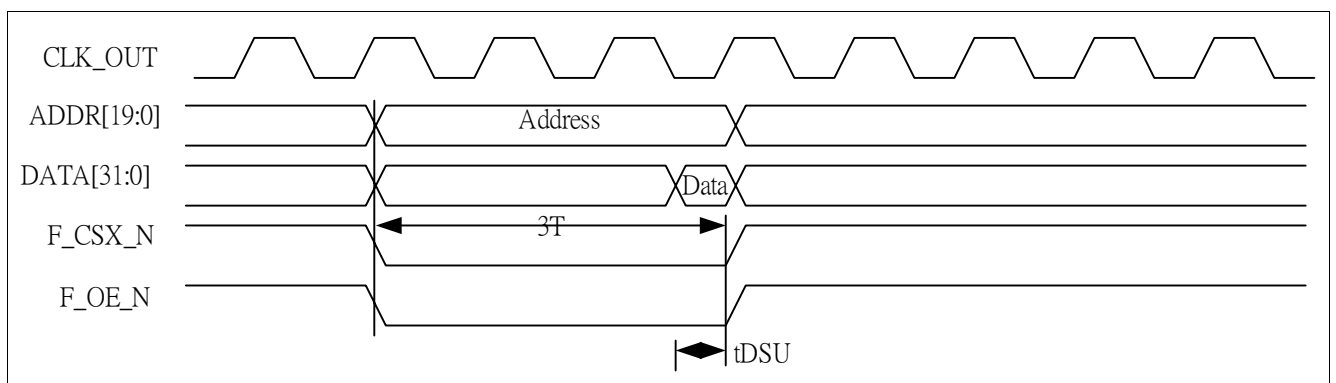

Figure 7 Read with Two Wait State
- The read access time is determined by the number of wait states programmed for the WAITRD field of the **MPMC Static Wait Rd 1** register. The WAITTURN field in the **MPMC Static Wait Turn 1** register determines the minimum number of bus turnaround wait states added between external read and write transfers. **Figure 7** shows that the WAITRD is set to 2 in the **MPMC Static Wait Rd 1** register.